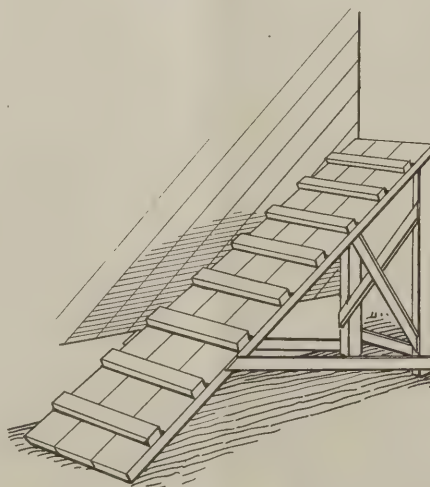

Fig. 2
O. S., a Silverton, Ore., subscriber, sends in the accompanying sketch, Fig. 2, "illustrating," he says, "my idea for a convenient time and labor-saver for putting on diagonal sheathing. I have used this on two different jobs lately, and it has more than paid for its cost, to say nothing of the ease with which the work is done as compared with the effort when any other scaffold is used. It can be used for either inside or outside work, and is easily moved around. Two men can work to advantage with it, one working mostly on the ground. What leads the boss to find these time-saving de-